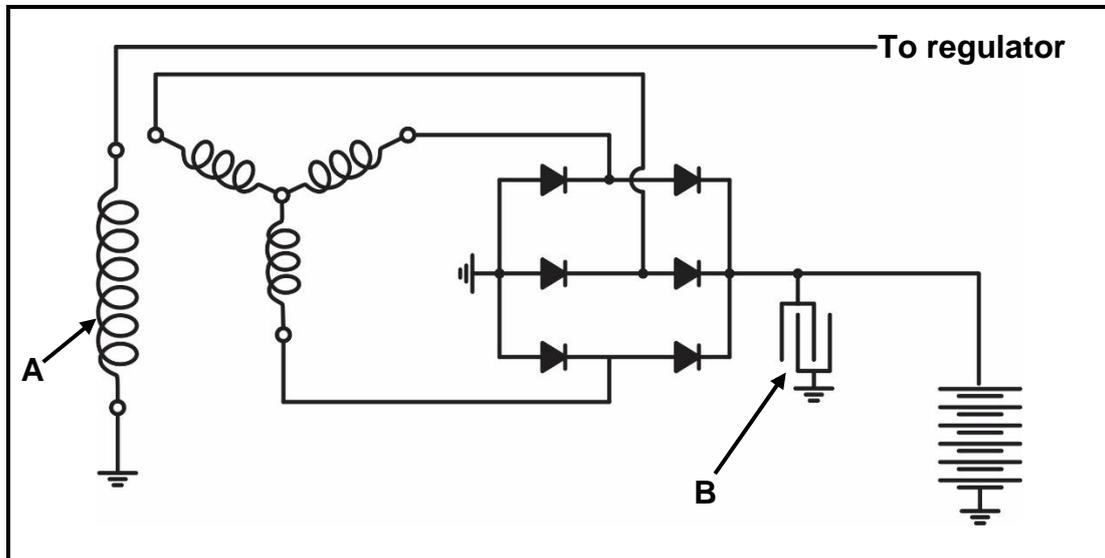

FIGURE 10.9
10.9 FIGURE 10.9 below shows a three-phase alternator circuit diagram. Answer the questions that follow.